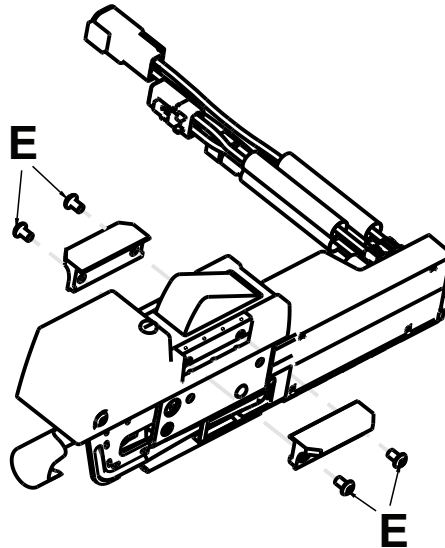

Figure 50 – Remove the retainer wings
11. Using a T25 Torx driver, remove the four button head cap screws (E) that secure the two retainer wings and remove the retainer wings (Figure 50). Save the screws.